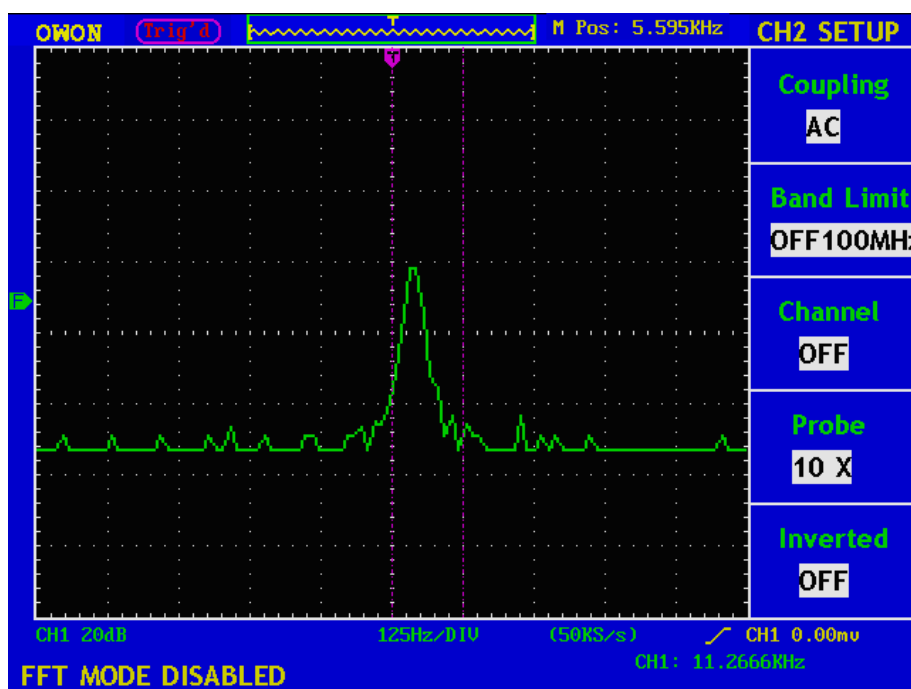

Fig. 5-4 Channel CH1 is disable under FFT mode
- (1). Press the **CH1 MENU** button and call out the **CH1 SETUP** menu.
- (2). Press the **F3** menu selection button and select the Channel as **OFF**, with Channel 1 switched off.
- (3). Press **F3** menu selection button again, select the channel as **ON**, with Channel 1 is switched on.
**Note:**In FFT mode, both CH1 and CH2 are not allowed to be ON when F3 is pressed. See Fig.5-4.